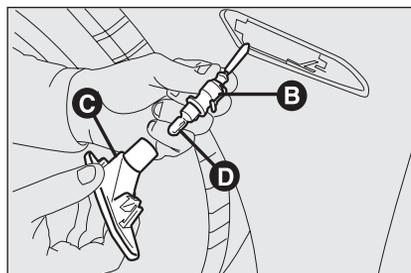

fig. 31
- turn the bulb holder **B**-fig. 31 counter-clockwise and remove it from lens **C**.